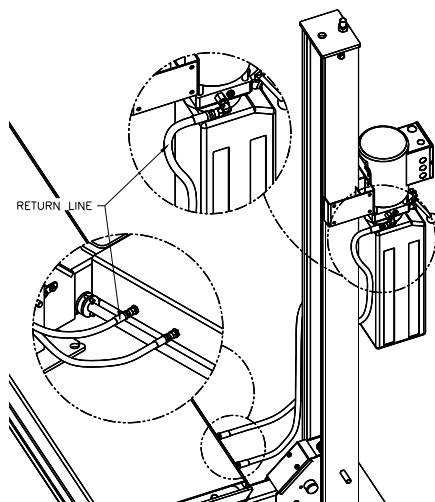

Fig 16 – Return Line, Side
- 34) Remove the 3/8-18 NPT plug on the side of the power unit and replace with the 3/8-18 NPT x 9/16-18 adapter and attach the 90 degree elbow to the adapter, **Fig 16**.